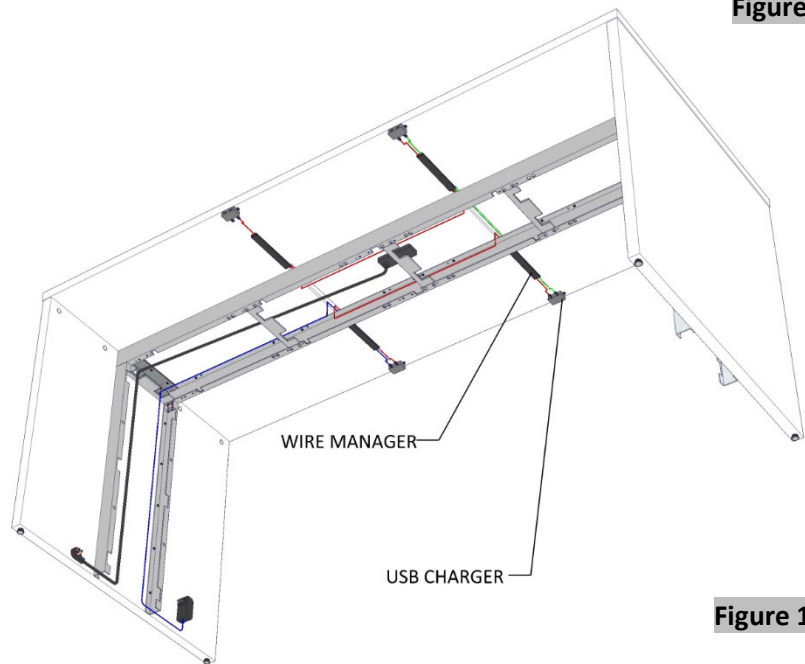

Figure 13A
22. Lay-in the electrical wires and communication cables inside wire troughs, (Figure 13A).